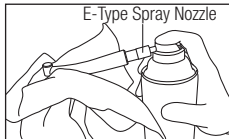

Fig. 15
- 3) Hold the handpiece, and spray for 2 or 3 seconds until oil comes out of the handpiece head (Fig. 15). Repeat lubrication until foreign material stops coming out of the tip.